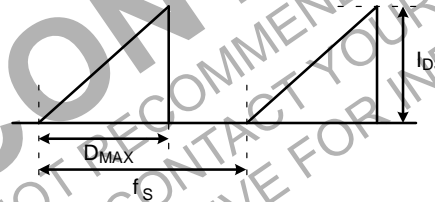

Figure 4. Repetitive Peak Switching Current
4. Repetitive peak switching current when the inductive load is assumed: Limited by maximum duty (D_{MAX} = 0.73) and junction temperature (see Figure 4).